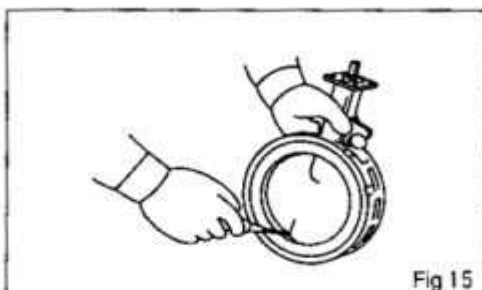
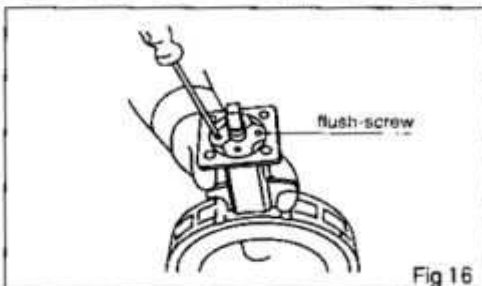

Fig 15
Fig 16
- 1. Discharge air remained inside the pipings :** Air may remains inside the pipings by wear of or damage to the seat-ring. In case of this, the shaft④&⑤ may jump out from the valve. To avert this, release the cover bolts③ slightly to make sure no air remains inside the pipings. If a r remains, discharge air by inserting a regular screwdriver with a round tip between the seat-ring① and the upper & lower part of the disc②. (Fig15)
- 2. Remove the cover :** Fix the valve by a vise, remove hexagonal bolts, spring washer⑩, cover⑪, gasket⑫ from the valve body①.
- 3. Remove the screw⑧ :** Remove the plate⑨ securing the upper shaft④ the bushing⑨ and screws⑧ fixing O-ring⑨. When screws⑧ removed, to avert air remaining in the shaft hole, loosen the screw⑧ gradually. (Fig16)